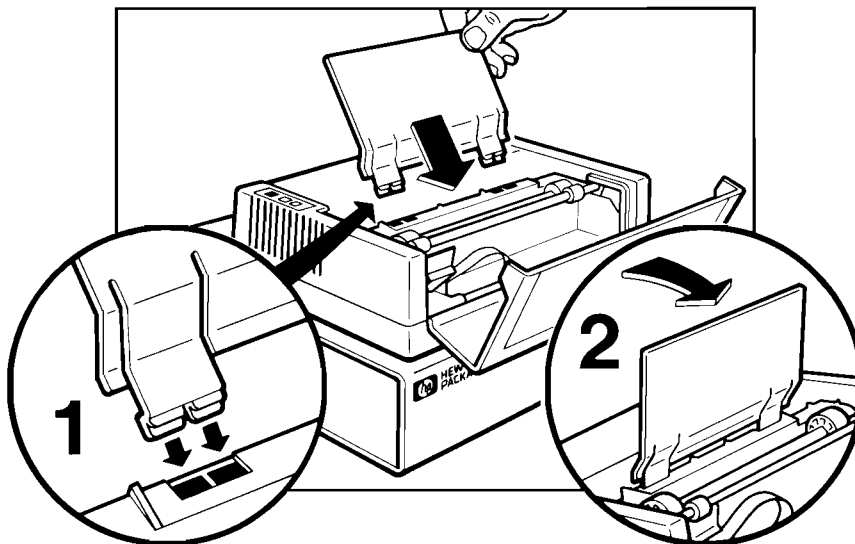

Figure 3-1. Installing Paper Separator
2. Install the paper separator, as shown in Figure 3-1.